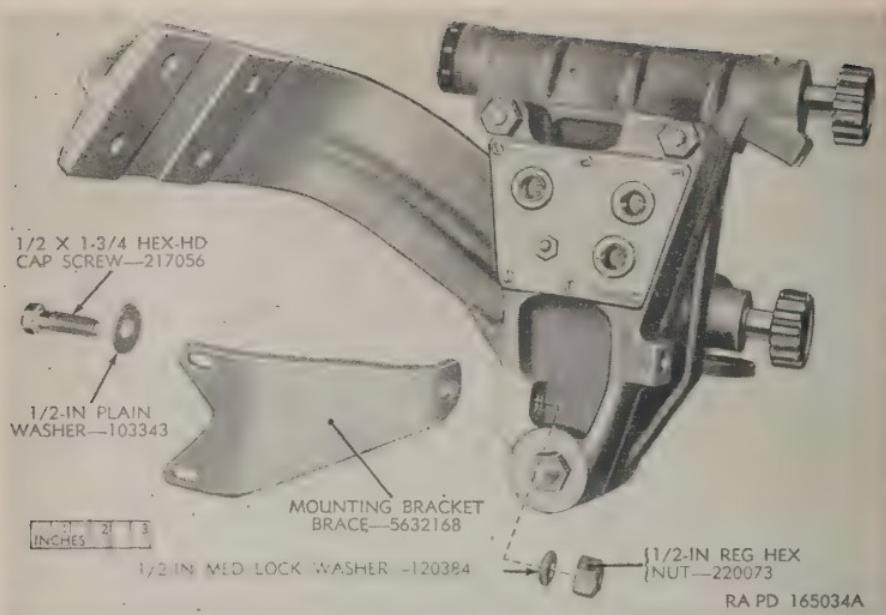

Figure 60. Telescope mounts M52C and M52D—removal of the mounting bracket brace.
e. Mounting Bracket Brace (Telescope Mounts M52C and M52D) (fig. 60). Remove the hex nut that secures the brace to the right-rear side of the upper mounting bracket. Remove the lock washer from the hex-head cap screw. Extract the cap screw and remove the plain washer from the cap screw.